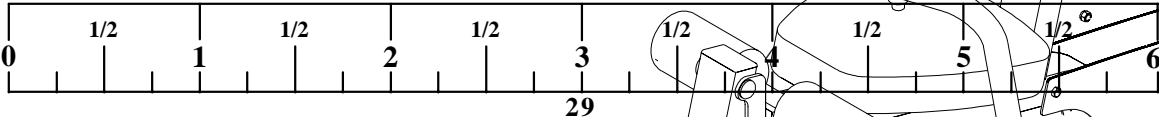

**FIGURE 20**
- Route the new PRESS STACK CABLE (7) thru the REAR UPRIGHT as shown. **(NOTE: Remove pulleys for ease of installation.)** Slide GUIDE RODS up just enough to get the cable end thru. Push GUIDE RODS down when finished.
- Route the new PRESS STACK CABLE (7) around the pulleys in the BOOM BRACKET using the existing bolts as shown in FIGURE 20. **(NOTE: Make sure the cable runs in the grooves of the pulleys.)**
- Screw the threaded end of the PRESS STACK CABLE (7) into the end of the HEAD PLATE. See FIGURE 20.